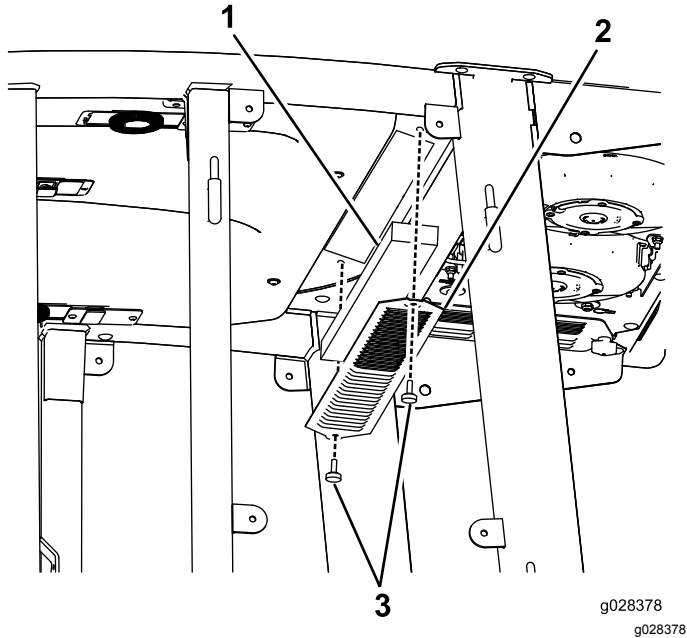
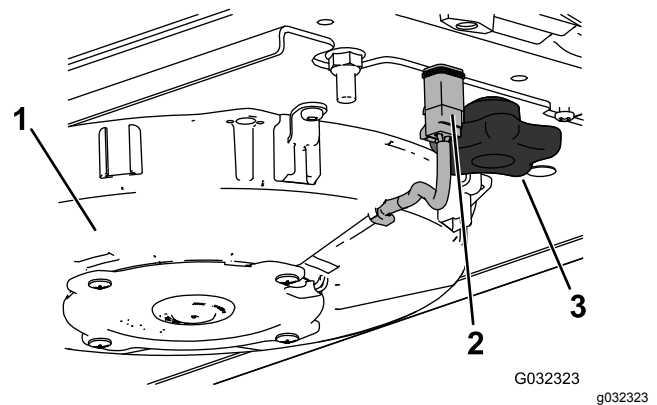
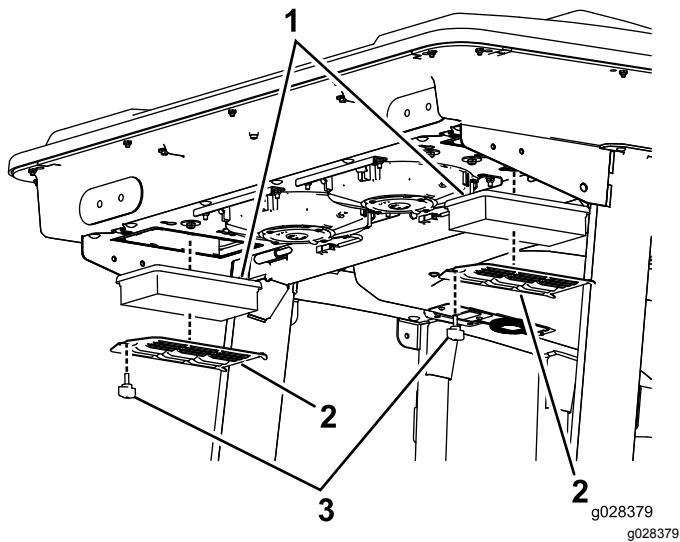
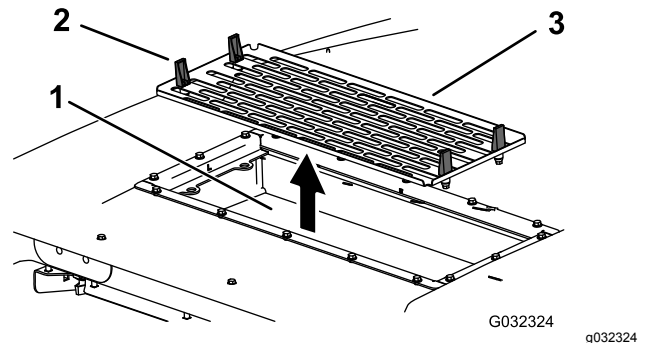

Figure 113
Figure 115
Figure 114
Figure 116
1. Remove the screws and grates from both the in-cab and rear cab air filters (Figure 113 and Figure 114).
5. Remove the air filters (see Figure 114).
7. Install the air filters, screen, and fan assembly (Figure 114, Figure 115, and Figure 116).
8. Connect the wire for each fan (Figure 115).